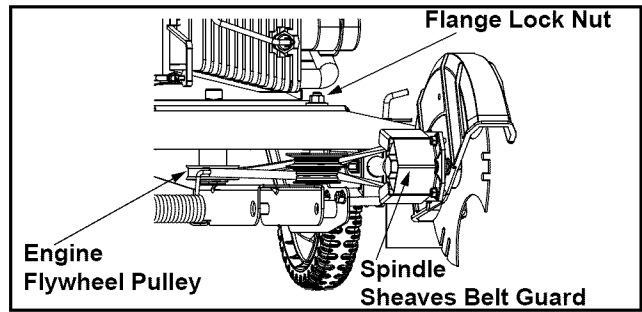

Figure 10
- Working in front of the edger, loosen the flange lock nut on top of frame, allowing the idler pulley assembly to pivot slightly out from the frame. See Figure 10.
- With your other hand, carefully reach under the rear of the unit and remove the belt from around the engine flywheel pulley. See Figure 10.